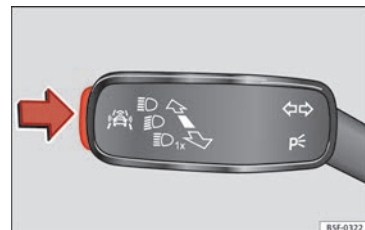

Fig. 89 On the turn signal and main beam headlight lever: button for the driving assistance systems
- Briefly press the button » **Fig. 89** in the direction of the arrow to open the menu **Assist systems**.